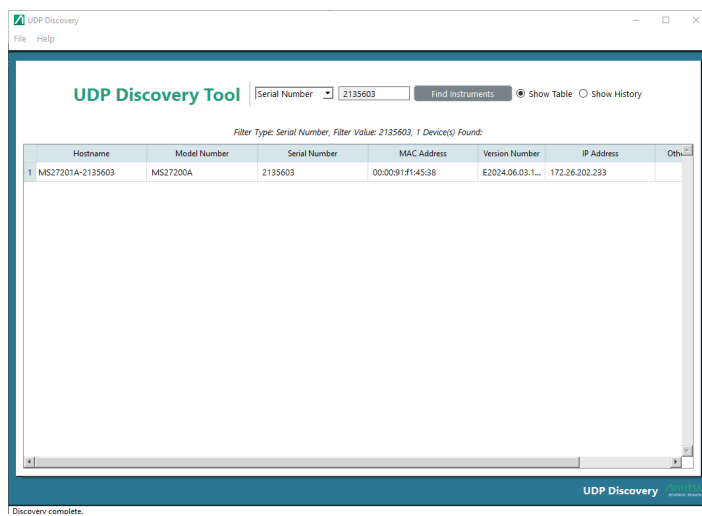

Figure 2-11. Locate Instrument
4. Click the Find Instruments bar. If the instrument is located, the instrument details will be displayed as shown in Figure 2-11.
Show Table : Click this radio button to display the device connection details as shown in Figure 2-11.